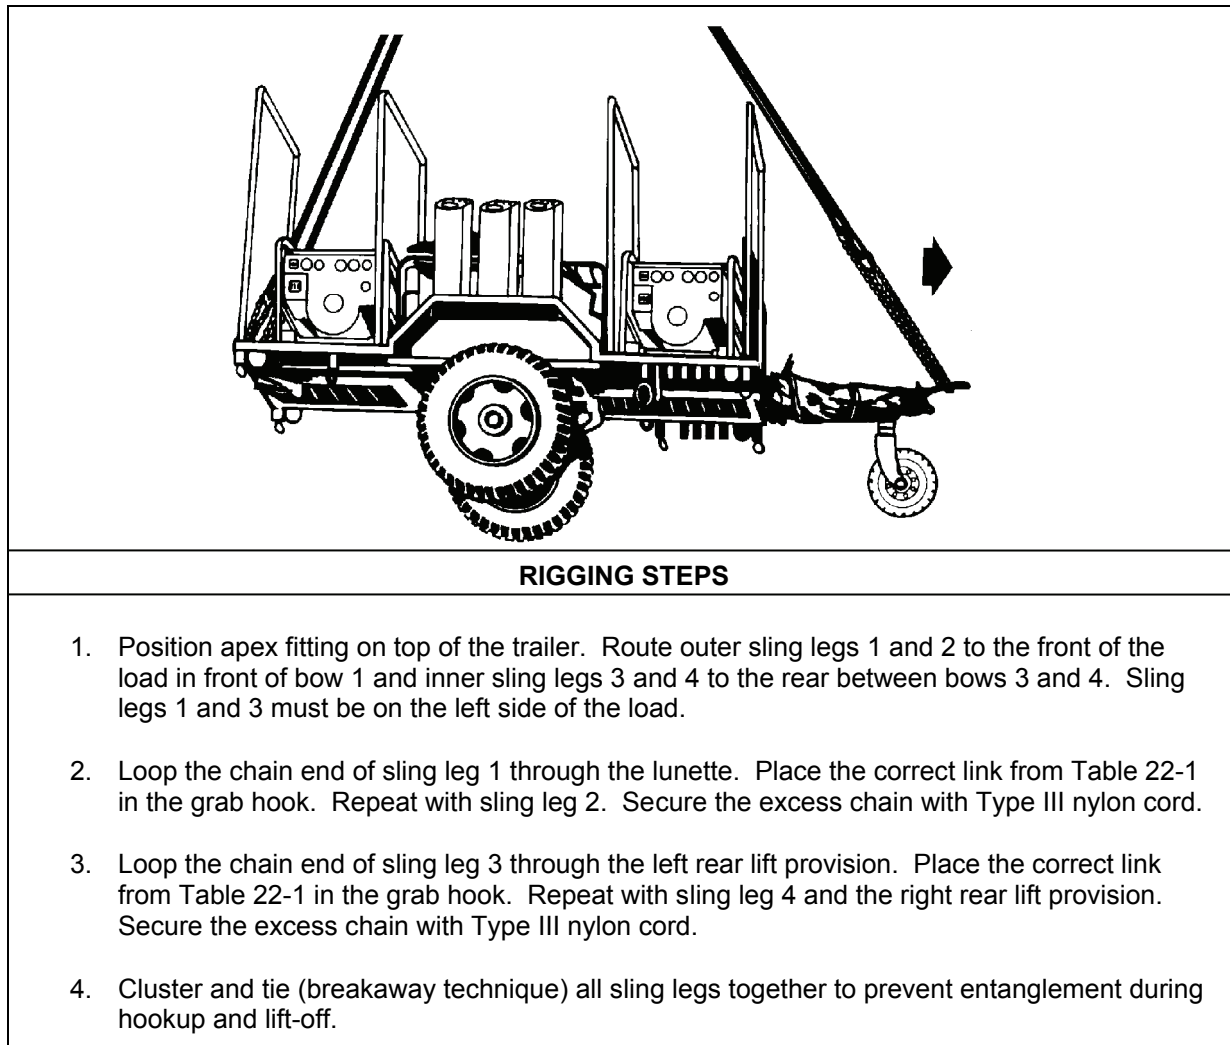

Figure 22-1. Trailer Mounted Generators
- **Rigging.** Rig the load according to the steps in Figure 22-1.